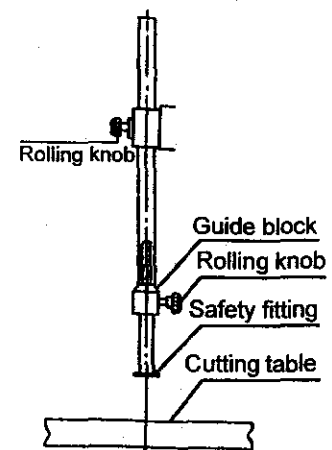

Fig. 6
1. Depends on thickness of materials,rotate rotary button to adjust guide block and protection device to the lowest position(Fig.6).